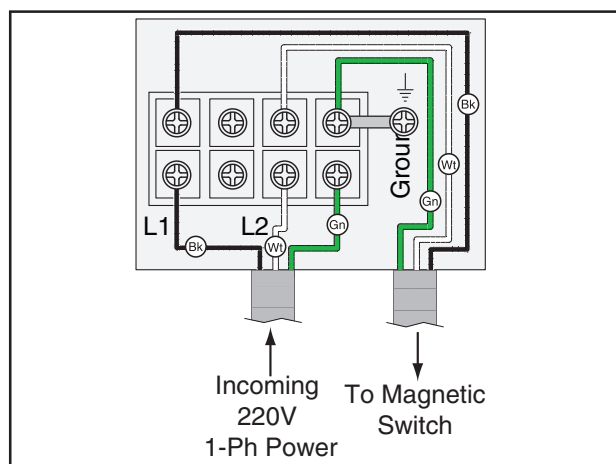

Figure 21. G0568 terminal box connection.
2. Feed the power wires through the strain relief on the bottom of the terminal box, tighten the strain relief, connect the cord to the terminals shown in **Figure 21** or **22** then reinstall the terminal box cover.